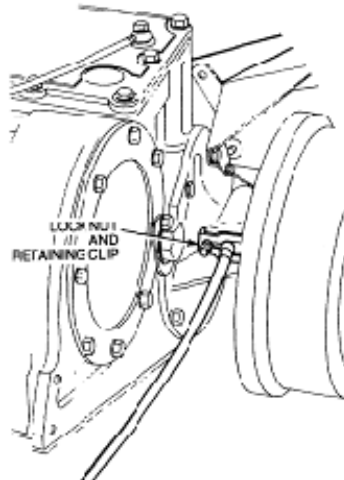

Figure 69 Speedometer Cable Locknut and Retaining Clip
111. **Removal.** Remove the speedometer cable and spindle as follows (Figure 69 and 70):
- g. Fit a new O ring to the spindle housing and insert a new inner oil seal (Figure 69 and 70).